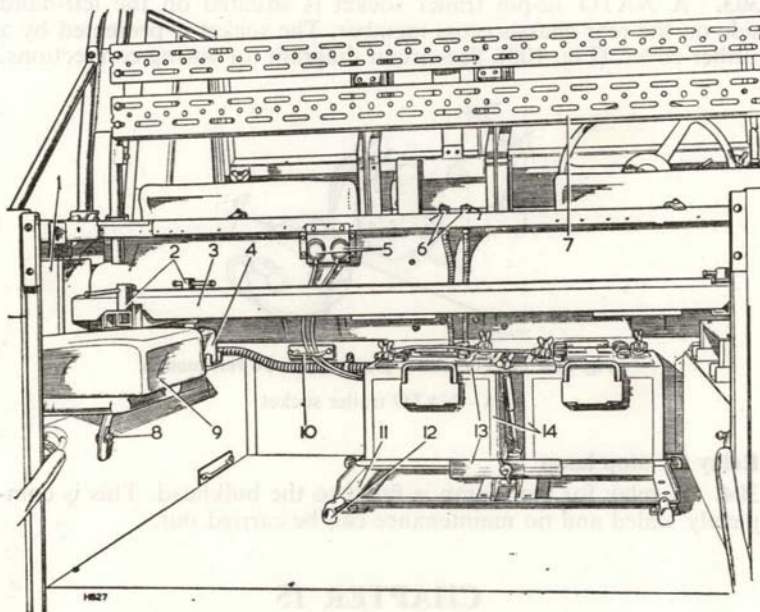

Fig. 109 Rear body compartment
327. Each set of batteries is secured in the carrier by a centrally disposed swivel bolt with clamp plate and wing nut. The clamp plate locates on the rear top edges of the batteries (Fig. 109 (13)).
329. Protection of the batteries is afforded by a box-shaped steel cover, having its front and bottom sides open. The top front edge of the cover is located by two angle brackets fixed to the back of the driver's compartment seat rest. The cover is secured at its rear end by means of two spring-loaded fasteners (Fig. 109 (12)), bolted to the floor plate, which engage hooks fixed to the cover.